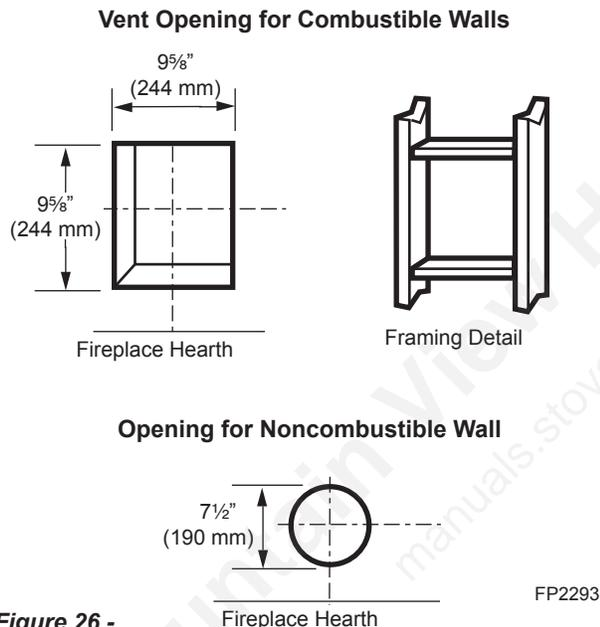

Figure 26 -
Locate vent opening on the wall. It may be necessary to first position the fireplace and measure to obtain hole location. Depending on whether the wall is combustible or noncombustible, cut opening to size. *Figure 26* (For combustible walls first frame in opening.)
Combustible Walls: Cut a 9 5/8" H x 9 5/8" W (244 x 244 mm) hole through the exterior wall and frame as shown. *Figure 26*
1. Establish vent hole through the wall. *Page 22, Figure 26*